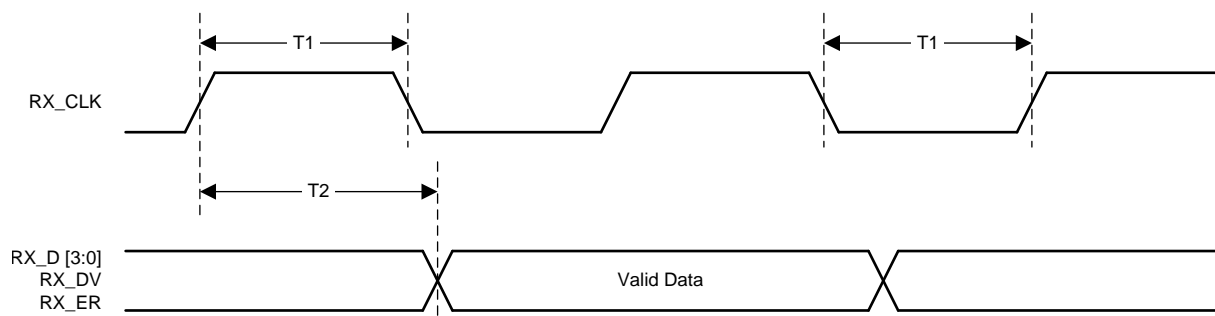

图 7. 10-Mbps Receive Timing
(1) Ensured by production test, characterization or design.
(2) See 图 7.